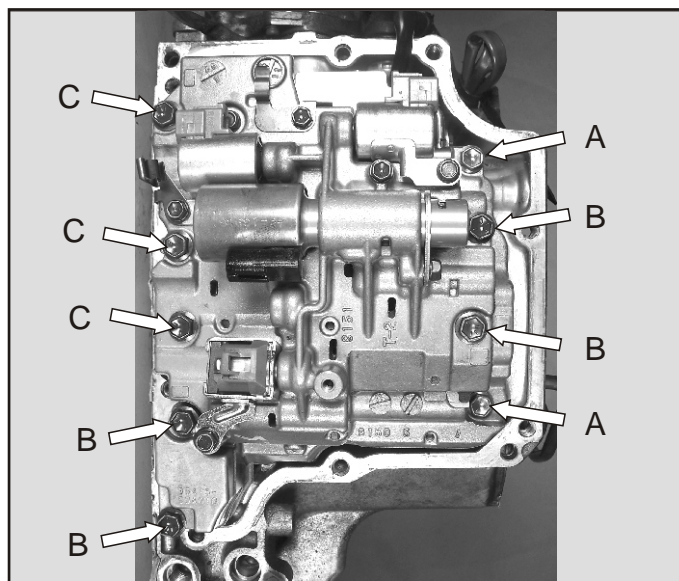

Figure 298
- 222. Install the 10 mm headed valve body to case retaining bolts as shown in Figure 298. Torque to 7-11 ft.lb. *Note: bolt lengths are as follows, A = 16mm long, 50mm long and C = 55mm long.*